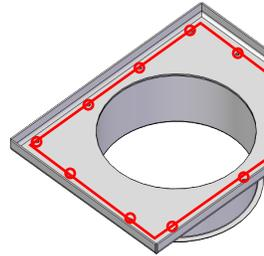

Figure 2--Underside of adapter plate showing where Ceramic Sealing Compound should be applied.
- Apply the supplied Engineered Grade Ceramic Sealing Compound to the underside of the adapter with an unbroken bead around the perimeter, and around each individual screw hole, as shown in Figure 2 to the right.
- Apply the supplied Engineered Grade Ceramic Sealing Compound to the underside of the adapter with an unbroken bead around the perimeter, and around each individual screw hole, as shown in Figure 2 to the left.